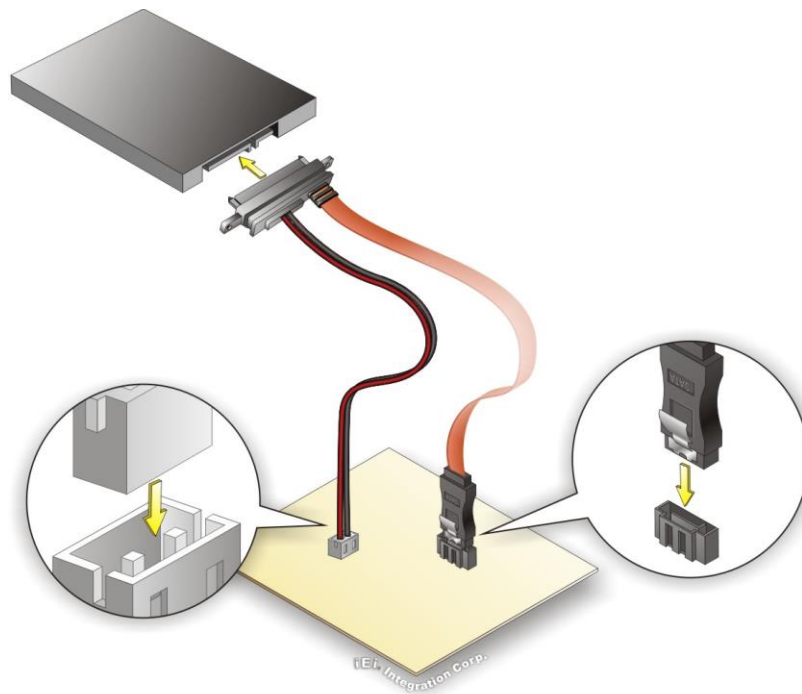

Figure 3-10: SATA Drive Cable Connection
- Step 2:** **Insert the cable connector.** Insert the cable connector into the on-board SATA drive connector and the SATA power connector. See **Figure 3-10**.
- Step 3:** **Connect the cable to the SATA disk.** Connect the connector on the other end of the cable to the connector at the back of the SATA drive. See **Figure 3-10**.